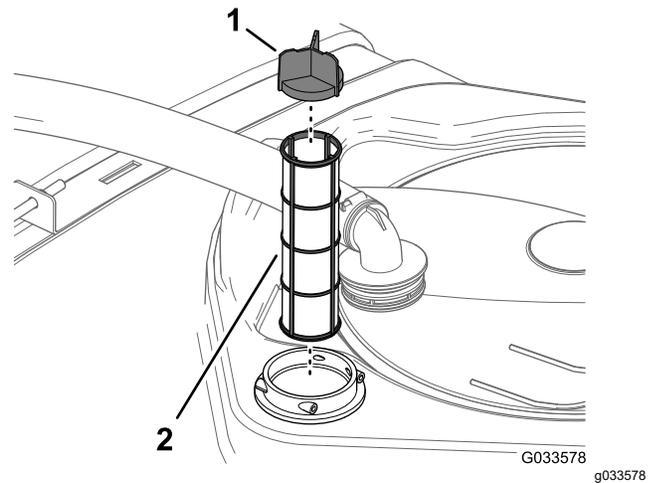

Figure 110
4. Remove the old suction filter from the filter housing in the tank (Figure 110).